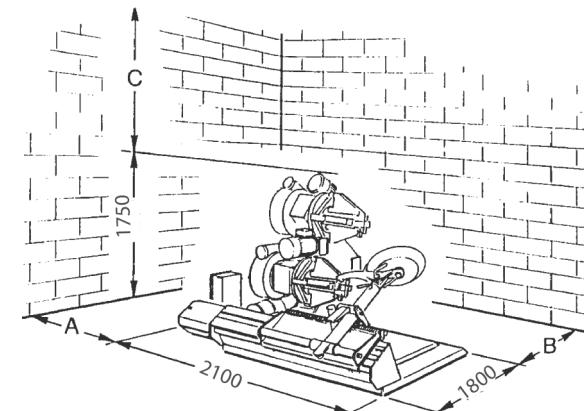

fig.16
**COLLOCAMENTO (fig.16)****DIMENSIONI D'INGOMBRO:**
Ved. Fig. 16 dimensioni A - B - C
**LOCATION (fig.16)****OVERALL DIMENSIONS:**
See Fig. 16 dimensions A - B - C
## PLACEMENT (fig.16)
V. Fig. 16 dimensions A - B - C
## AUFSTELLEN (Abb.16)
Siehe Abb. 16, Außenmaße A - B - C
## COLOCACION (fig.16)
Véase Fig. 16 dimensiones A - B - C